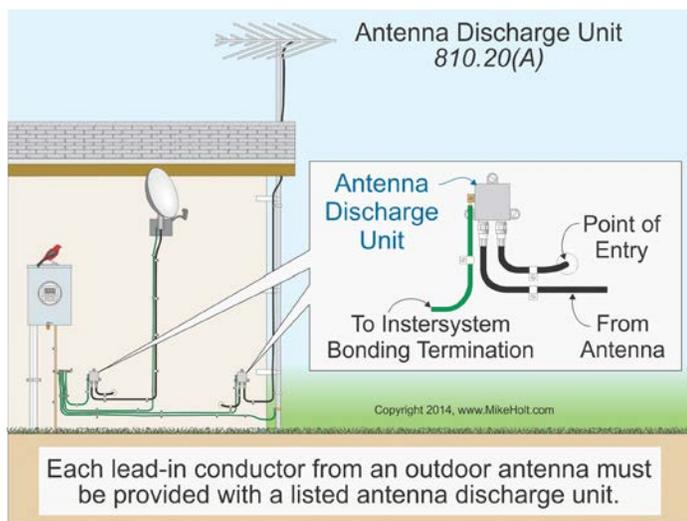

Figure 810–10
**(A) Where Required.** Each lead-in conductor from an outdoor antenna must be provided with a listed antenna discharge unit. **Figure 810–10**